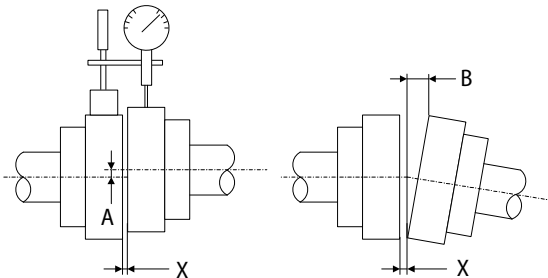

Fig. 8
(1) Coupling
- The dimensions (A,B and X) illustrated in Fig. 8 must be within the tolerance listed in Table 13.
- Shrink fit or shaft-end thread is recommended for mounting (Fig. 8).